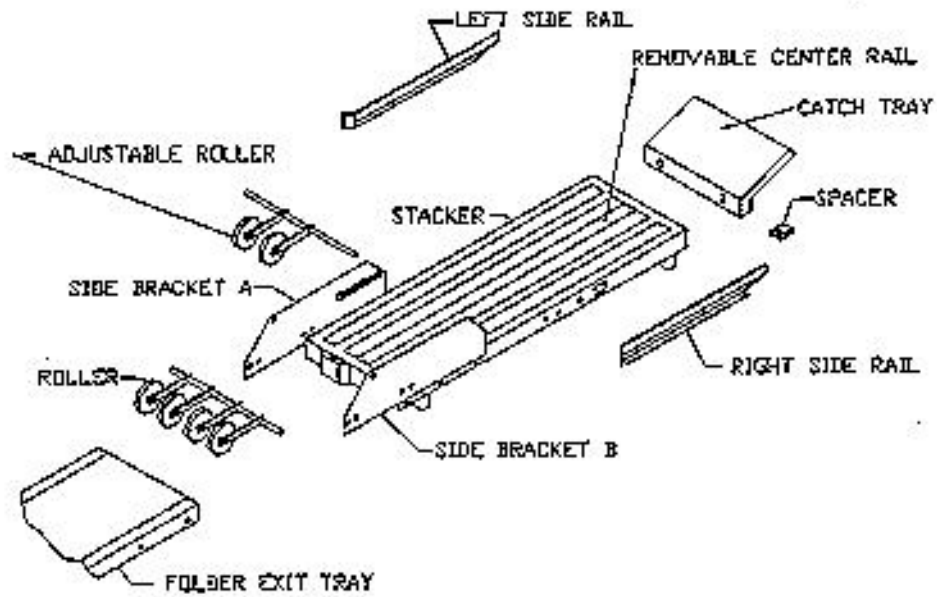

FIGURE 2
1. Assemble your 2610-03 using the assembly procedure fig. 2 and connect it to your folder.
4. If forms begin to tip towards the infeed side of the deck when less than 800 forms are stacked you may need to add the optional spacer (see fig. 2) which reduces the driving force between the belts and forms stack. The center rail, which is on the top of the deck, is removable. The purpose for this is to allow the operator to insert a spacer at the downstream part of the deck if needed. This is shown in fig. 2.